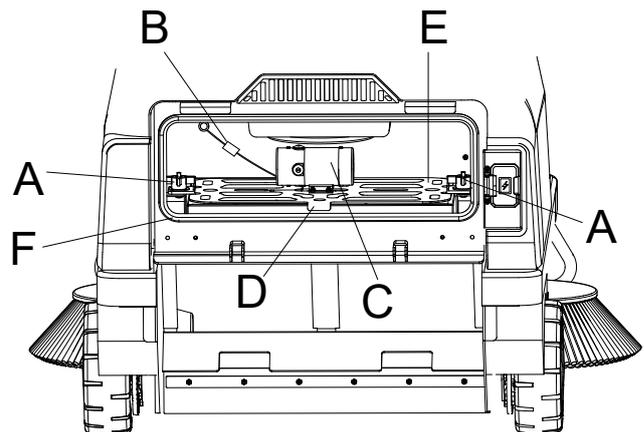
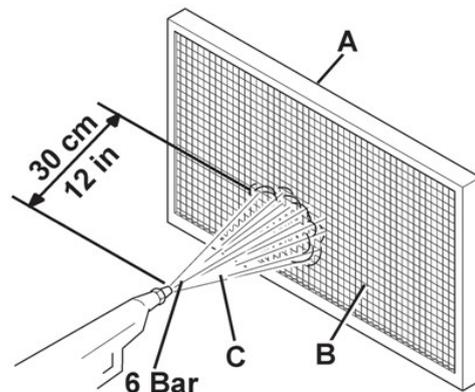

Figure 28
Figure 29
7. Loosen the nut (A, Figure 28).
8. Disconnect the vibration motor wiring (B, Figure 28) from the connector (C, Figure 28).
9. Remove the dust shaking plate (D, Figure 28).
10. Take out the filter (E, Figure 28).
11. Clean the filter on a level, clean surface. Gently tap the side (A, Figure 29) opposite the wire mesh side (B, Figure 29). Use compressed air with no more than 6 psi pressure to clean, blowing air from the side with the wire mesh (B, Figure 29) at least 30 cm away from the filter. Depending on the type of filter, please pay attention to the following:
13. Clean the rubber strip on the cover plate (F, Figure 28) and check for damage or cracks. If damaged, replace it.
- When installing the filter (E, Figure 28), the side with the wire mesh (B, Figure 29) should face upward.